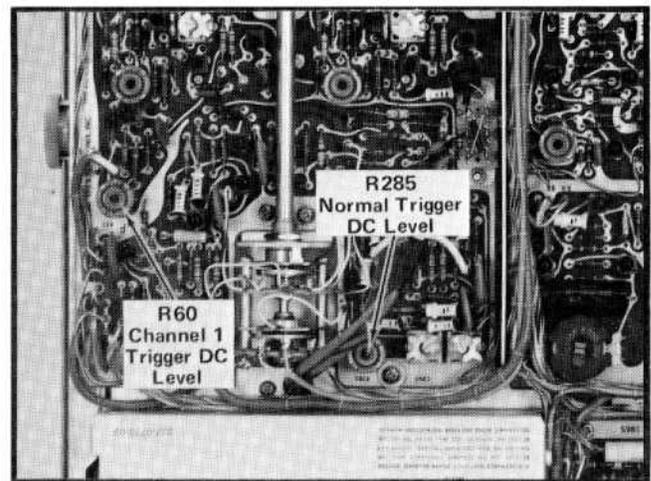

Fig. 5-12. Location of Triggering DC level adjustments (Vertical Preamp board).
d. ADJUST—Channel 1 Trigger DC Level adjustment R60 (see Fig. 5-12) for a stable display.